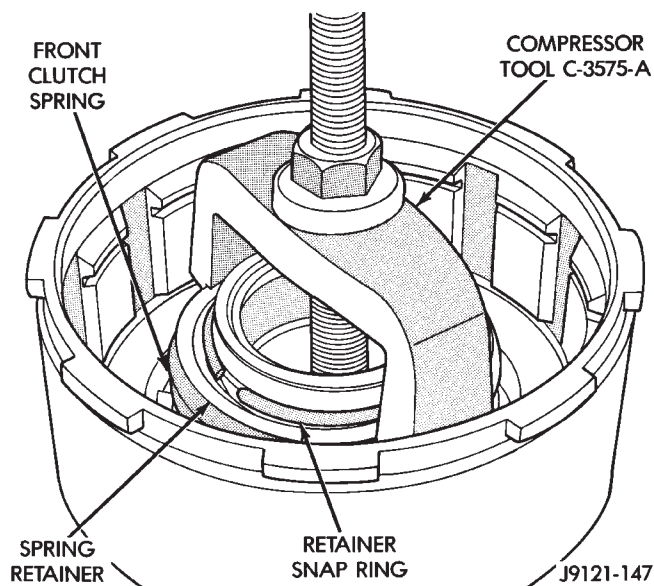

Fig. 58 Compressing Front Clutch Piston Spring
(2) Compress clutch piston spring with Compressor Tool C-3575-A (Fig. 58). Be sure legs of tool are seated squarely on spring retainer before compressing spring.